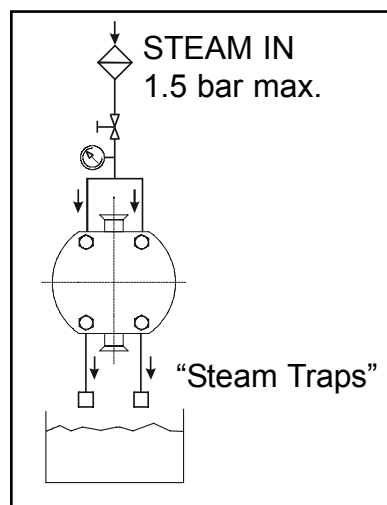

Figure 6:
- See figure 6 for suggested steam connection.
Steam Barriers: The pressure of steam should be as low as possible consistent with the desired temperature. Steam should be connected in at the highest point on the end cover and out at the lowest point to allow any condensate to drain from the lowest point. (see figure 6).